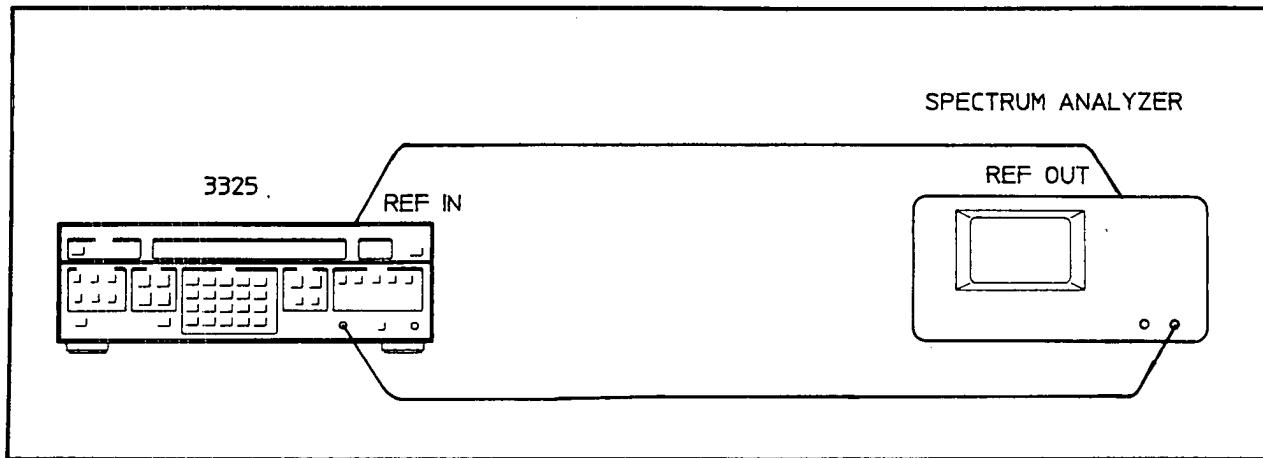

Figure 4-7. Mixer Spurious.
- Connect the HP 3325B signal output to the spectrum analyzer 50Ω (RF) input and the HP 3325B EXT REF input to the analyzer 10 MHz reference output (see figure 4-7).